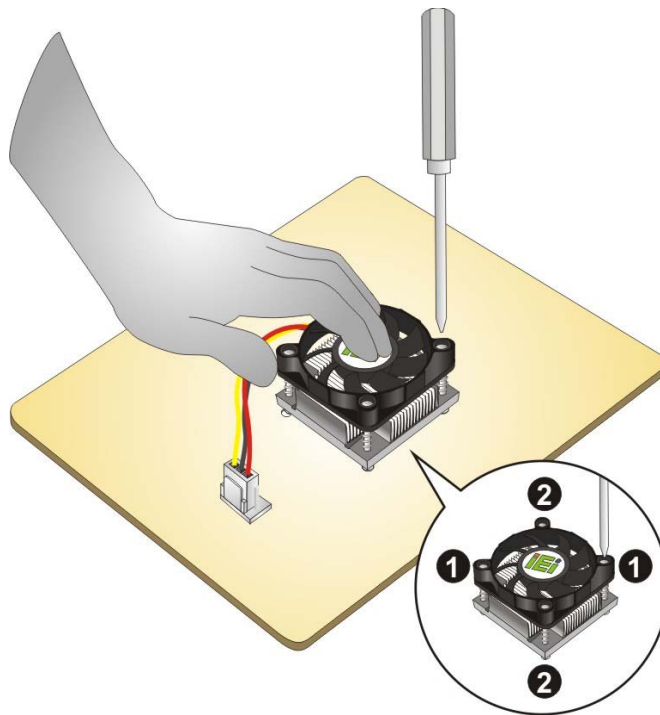

Figure 4-5: Secure the Cooling Kit
Step 4: Place the cooling kit onto the CPU. Push down the fan with some pressure to secure the cooling kit with the support bracket. See **Figure 4-5**.
Step 5: Tighten the screws. Use a screwdriver to tighten the four screws. In a diagonal pattern, tighten each screw a few turns then move to the next one, until they are all secured. Do not overtighten the screws. See **Figure 4-5**.